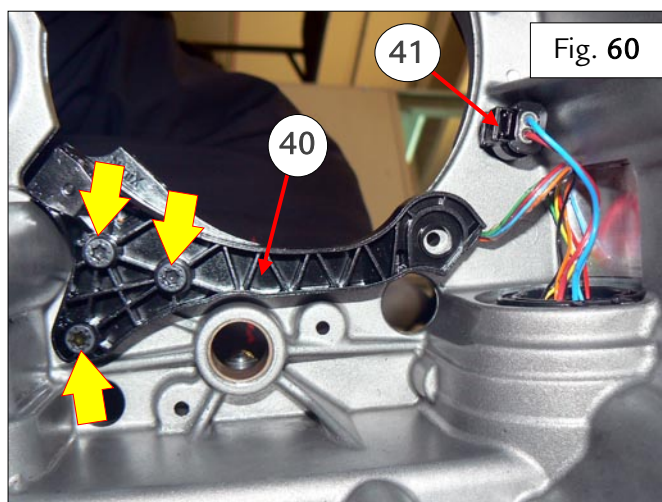

Fig. 60
- Disconnect the Park Lock connector (41) – Fig. 60.
- Loosen the indicated screws, then remove the speed sensor (40), pulling the relative connector out of the gear housing, and replace – Fig. 60.